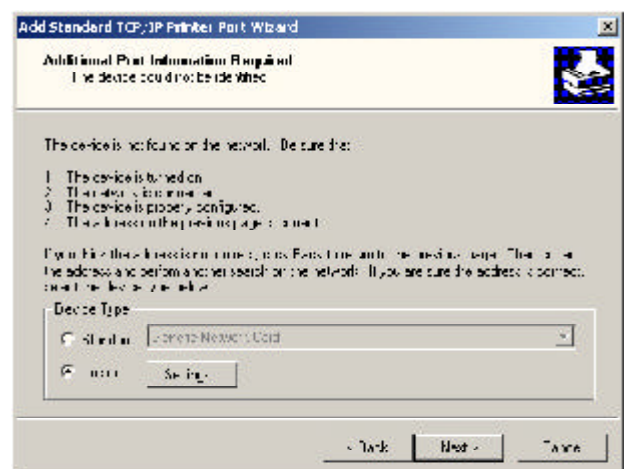

Fig. 4.4
Step 7 Select **Custom** then click on **Settings**. See *Fig. 4.4*